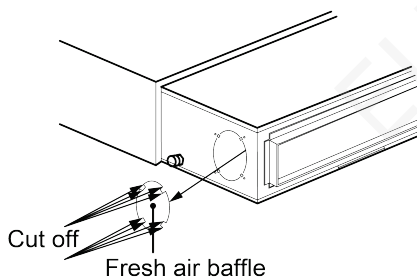

Fig 4.26
- (1) If a fresh air duct is needed, remove the fresh air baffle as shown in Fig 4.26. If a fresh air duct is not needed, block the gap on the baffle with sponge.